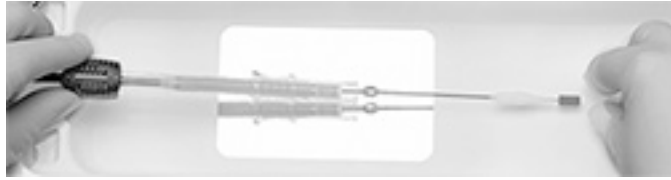

Figure 13
5. Continue to advance the capsule guide tube over the catheter shaft towards the handle until it contacts the distal end of the capsule (Figure 13).